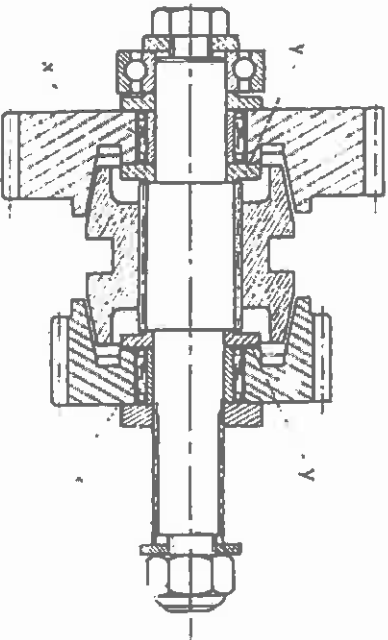

Fig. E 11
- heat in an oil bath at a temperature of 100° C the two Nadella bearing bushes X and the two stop washers Y (Fig. E 11).